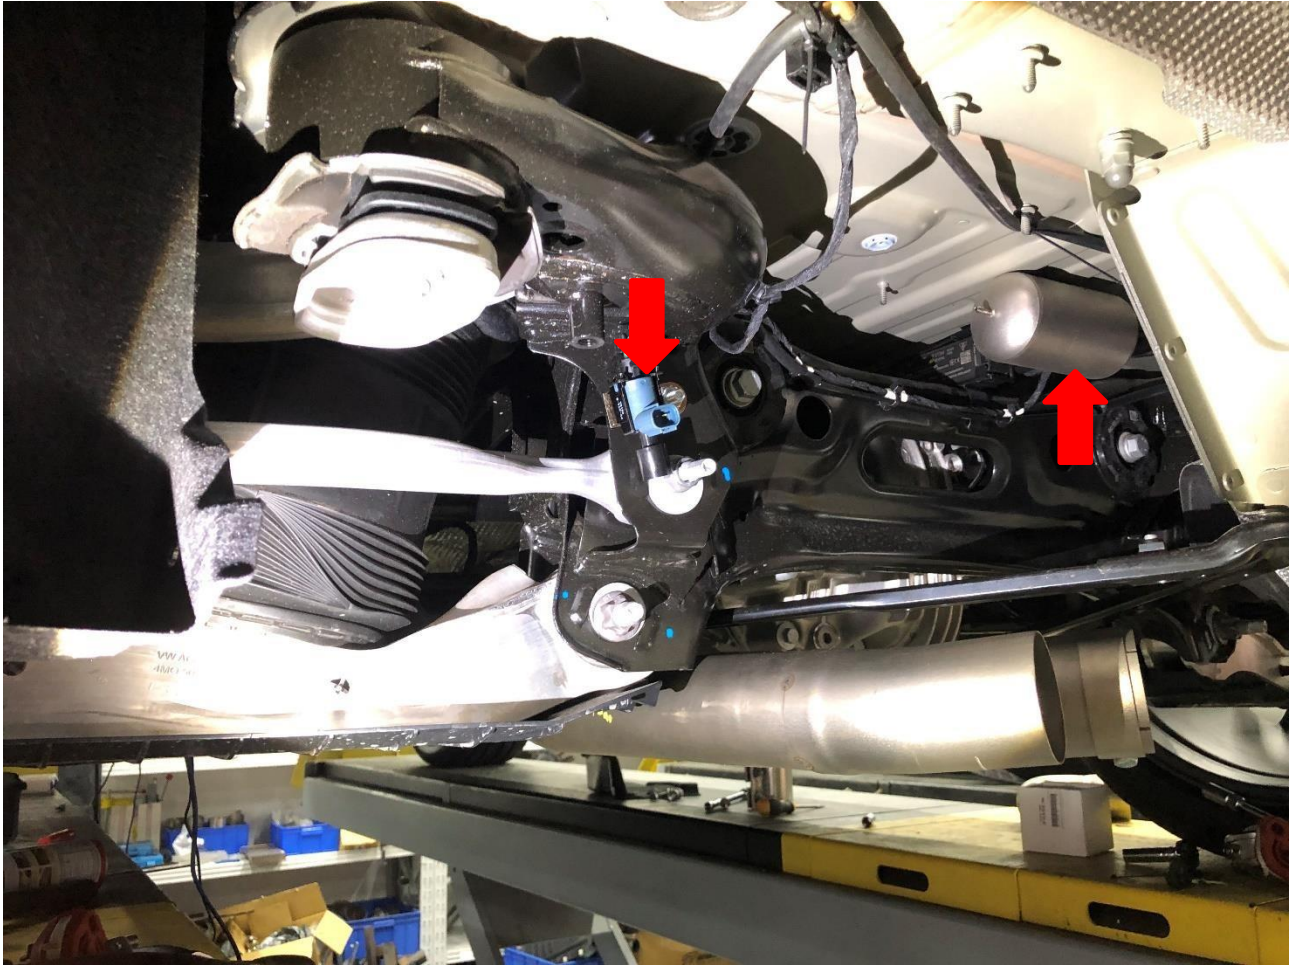

Figure 5
1. Install and lock the pressure reservoir barrel and solenoid valve (Figure 5)